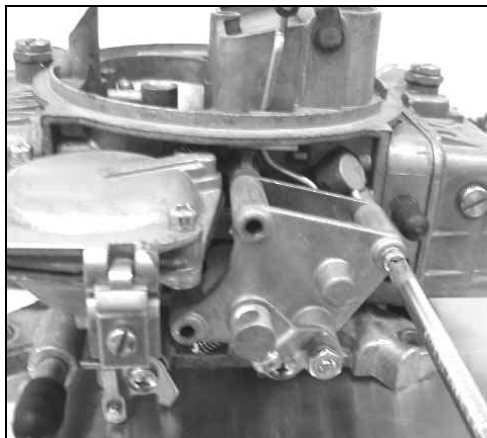

Figure 1
1. Remove the three (3) screws securing the manual choke (see Figure 1). Remove the fastener clip from the choke rod and the manual choke backing plate. Retain the fastener clip for a later time.